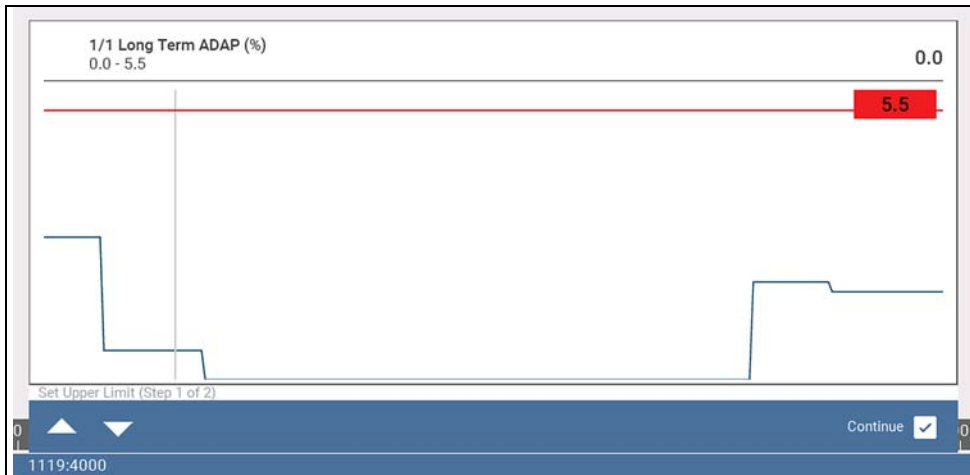

Figure 4-26
A graph of the highlighted PID and setup icons display (*Figure 4-26*).
The upper trigger point must be set first. A red horizontal line is displayed across the data graph (*Figure 4-26*) representing the upper trigger point.
4. Use the lower toolbar arrow icons (*Figure 4-26*), or the up ▲ and down ▼ arrow buttons to change the position of the upper trigger point.